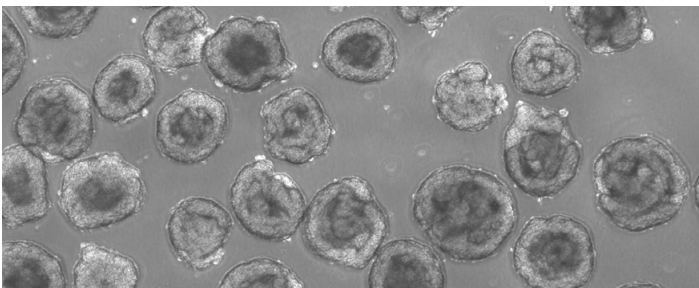

Figure 3. Cell aggregates at day 2 of specification.
- FP specification, day 2: At day 2 of specification, the cell aggregates will have a distinct epithelial-like morphology (Figure 3). To decrease stress on the cell aggregates, increase the volume of medium in each well during the medium change. Using a 5 mL pipette, change the medium by removing 1.5 mL and replacing it with 2.0 mL of FP Specification Medium. Return the plate to the orbital shaker platform at 70 rpm in the 37°C incubator. Incubate the cells for 48 hours.